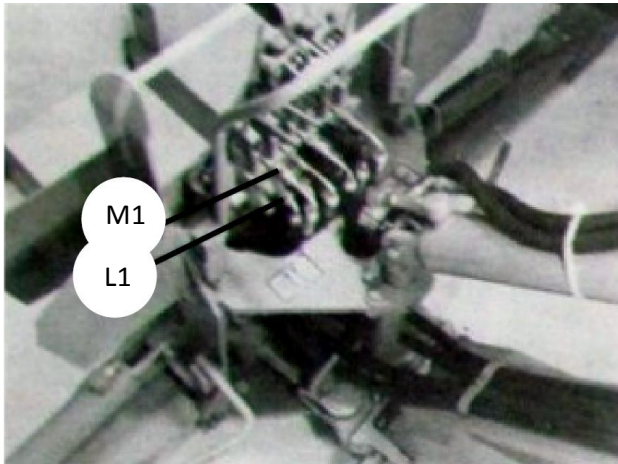
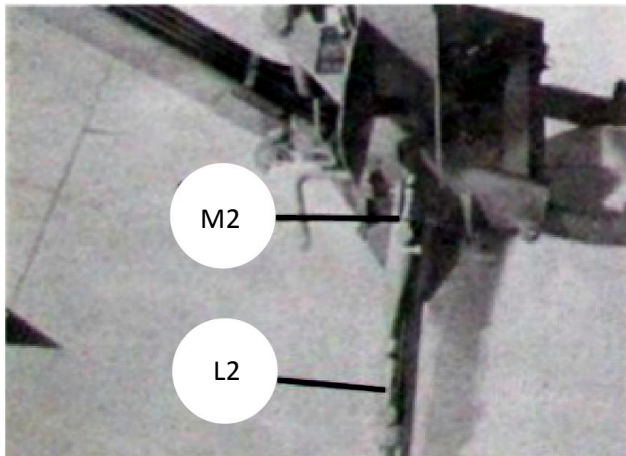

Fig. 13
Fig. 14
(13) Connect end of “right stabilizer up” hose (item 11) equipped with short 90° fitting to lower Port (Point L1) on fifth valve section from right as shown in Fig. 13. Route hose behind all other hoses inside mainframe, through the hole in right side plate and connect to the rod end (Point L2) of right stabilizer cylinder as shown in Fig. 14. Fasten the hose approximately 2” below the base end Port of the stabilizer cylinder.
(14) Connect end of “right stabilizer down” hose (Item 10) equipped with long 90° fitting to upper Port (Point M1) as shown in Fig. 13. Route hose in same manner as stabilizer up hose and connect to base end Port (Point M2) on right stabilizer cylinder as shown in Fig. 14.